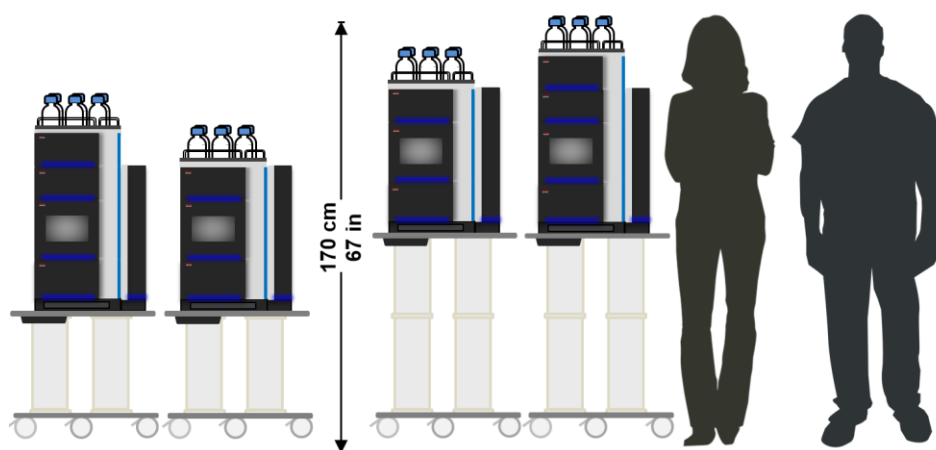

Figure 5: Typical layout for a stand-alone Vanquish (U)HPLC System or Vanquish Duo (U)HPLC System on the LC ionBench liftable table
Figure 5 shows the typical layout for a stand-alone Vanquish Duo (U)HPLC System with a Vanquish detector, column compartment, autosampler, pump, and system base with solvent rack using the ionBench Liftable Table for system mobility. For further information, refer to the supplier's Operating Manuals.